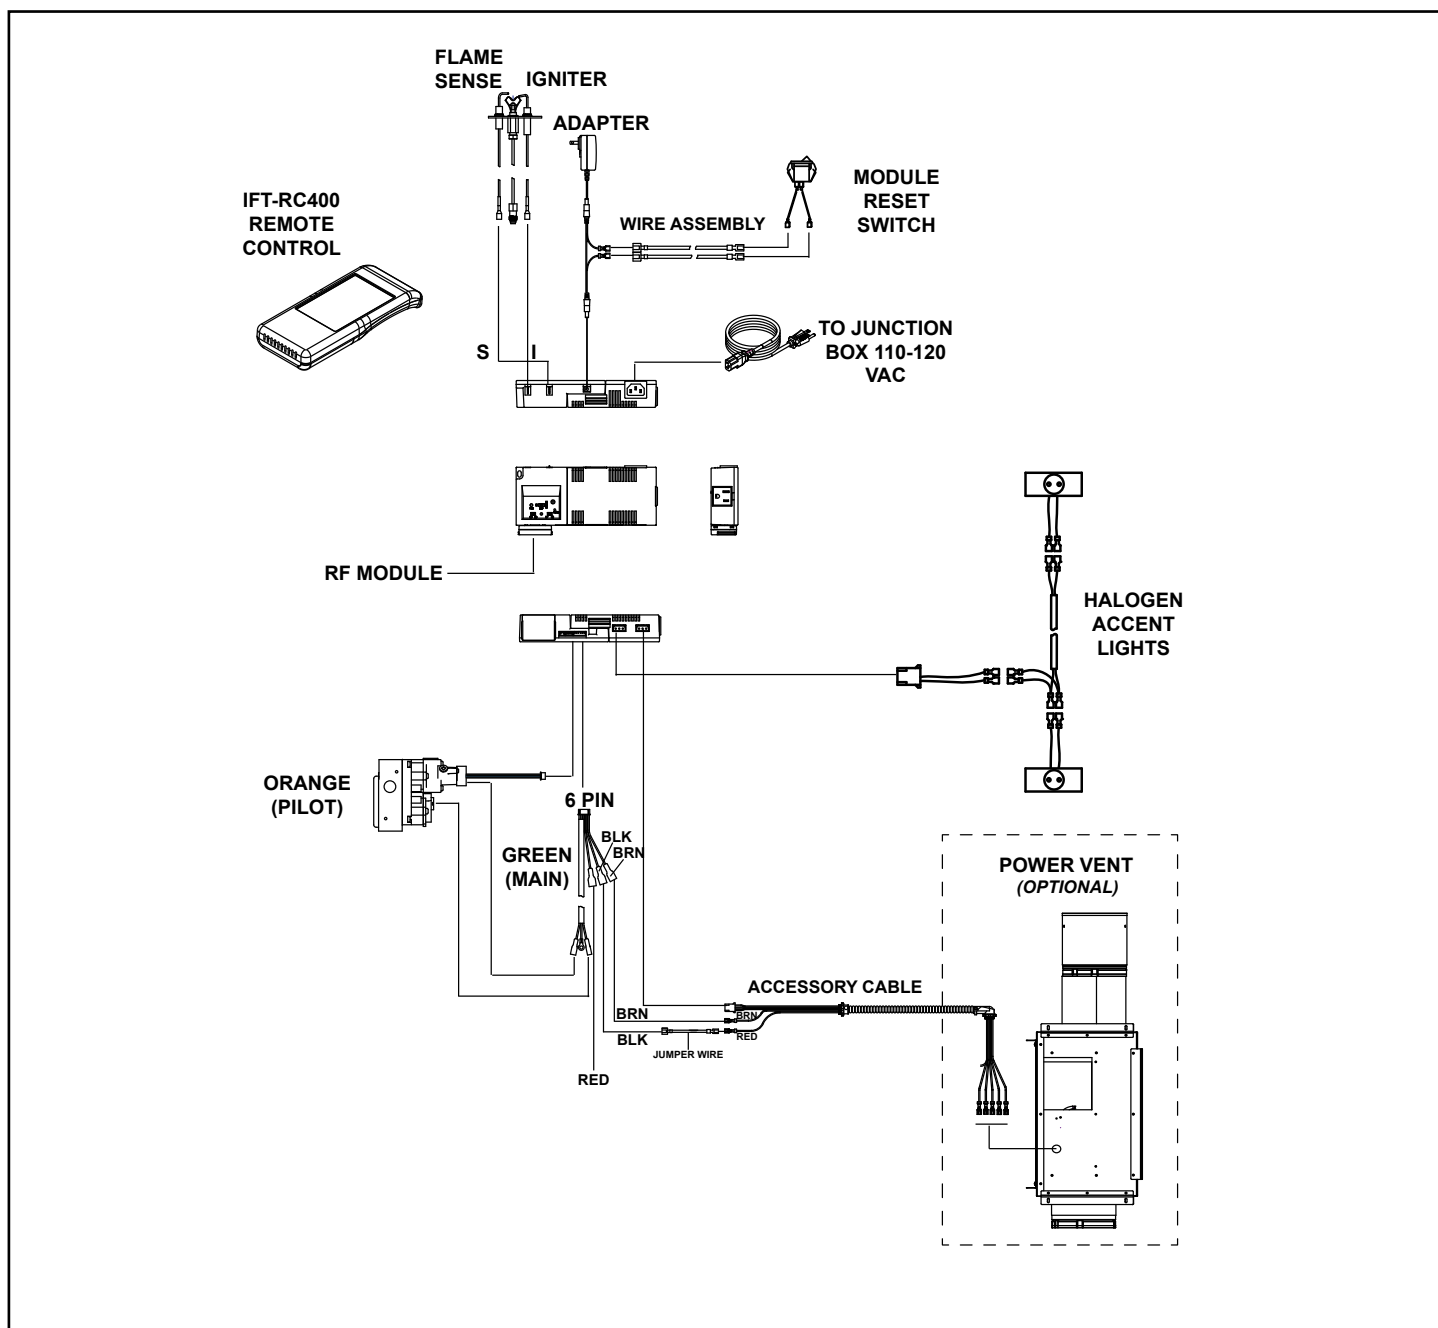

Figure 8.3 IFT Wiring Diagram
- Refer to Figure 8.3 or 8.4, IFT Wiring Diagram.